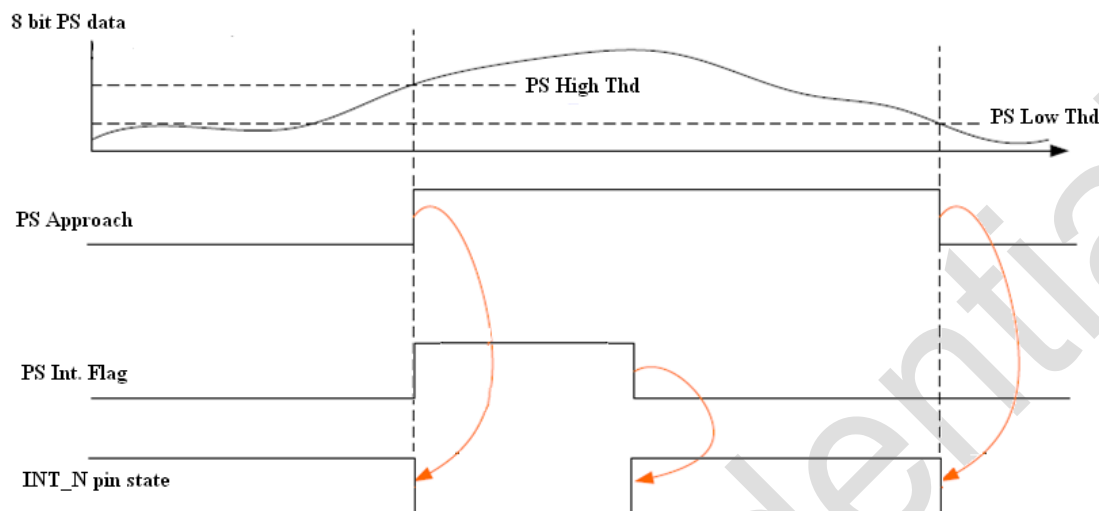

Figure 29. Proximity Sensing Functional Diagram
Refer to Figure 29 on how to set the Proximity Sensing (PS) hysteresis window and the interrupt mechanism of proximity detection.